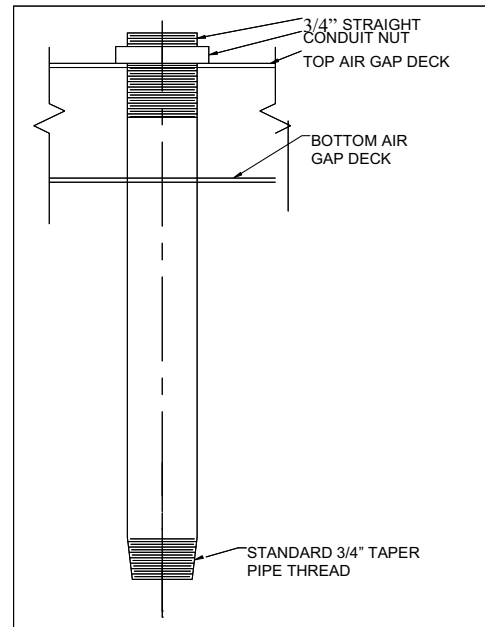

Figure 2
2.1 Remove the metal knock out plugs from 1 pair of holes. Install the satellite conduit to field conduit through holes in airgap decks. Tighten conduit nut to top airgap deck. See Figure 2.